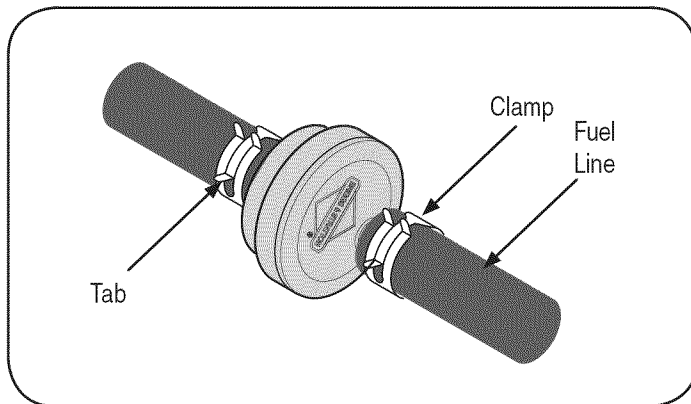

Figure 12
1. Use pliers to squeeze the tabs on the other clamp (the out-line side of the fuel filter), then slide the clamp away from the fuel filter. Twist and pull the fuel line off of the fuel filter. See Figure 12.